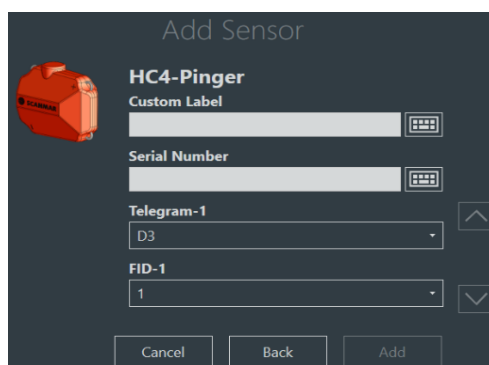

Figure 66 – Example of the fields to configure for a HC4-Pinger sensor
Fill in the custom label (optional), correct serial number and all the combinations of telegrams and FIDs (see *Figure 66*).
*Edit Sensor Configuration* – Displays the same dialog as when adding a sensor (see *Figure 66*), but only telegrams and FIDs can be changed.